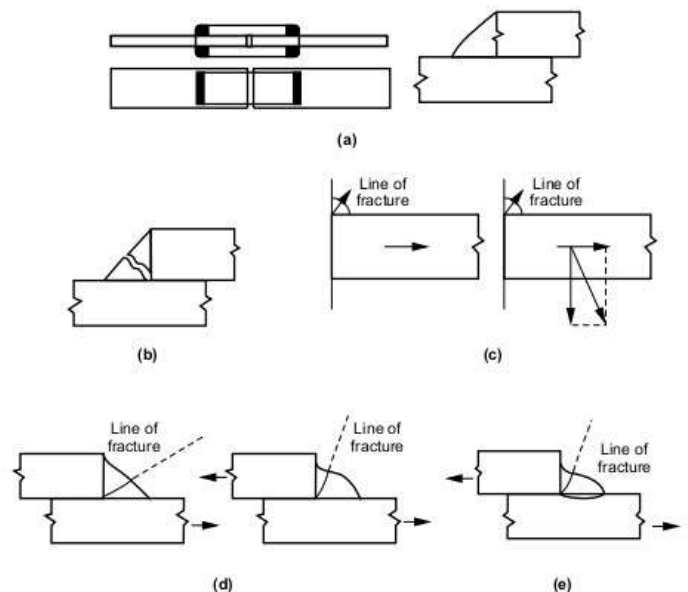

Fig. Q.27.3 Fracture position in end fillet weld
- The Fig. Q.27.3 shows various types of failure in end fillet weld,